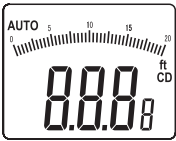

Figure 7-2
- Press the “RAN” button to switch between meters and feet (as shown in figure 7-2).